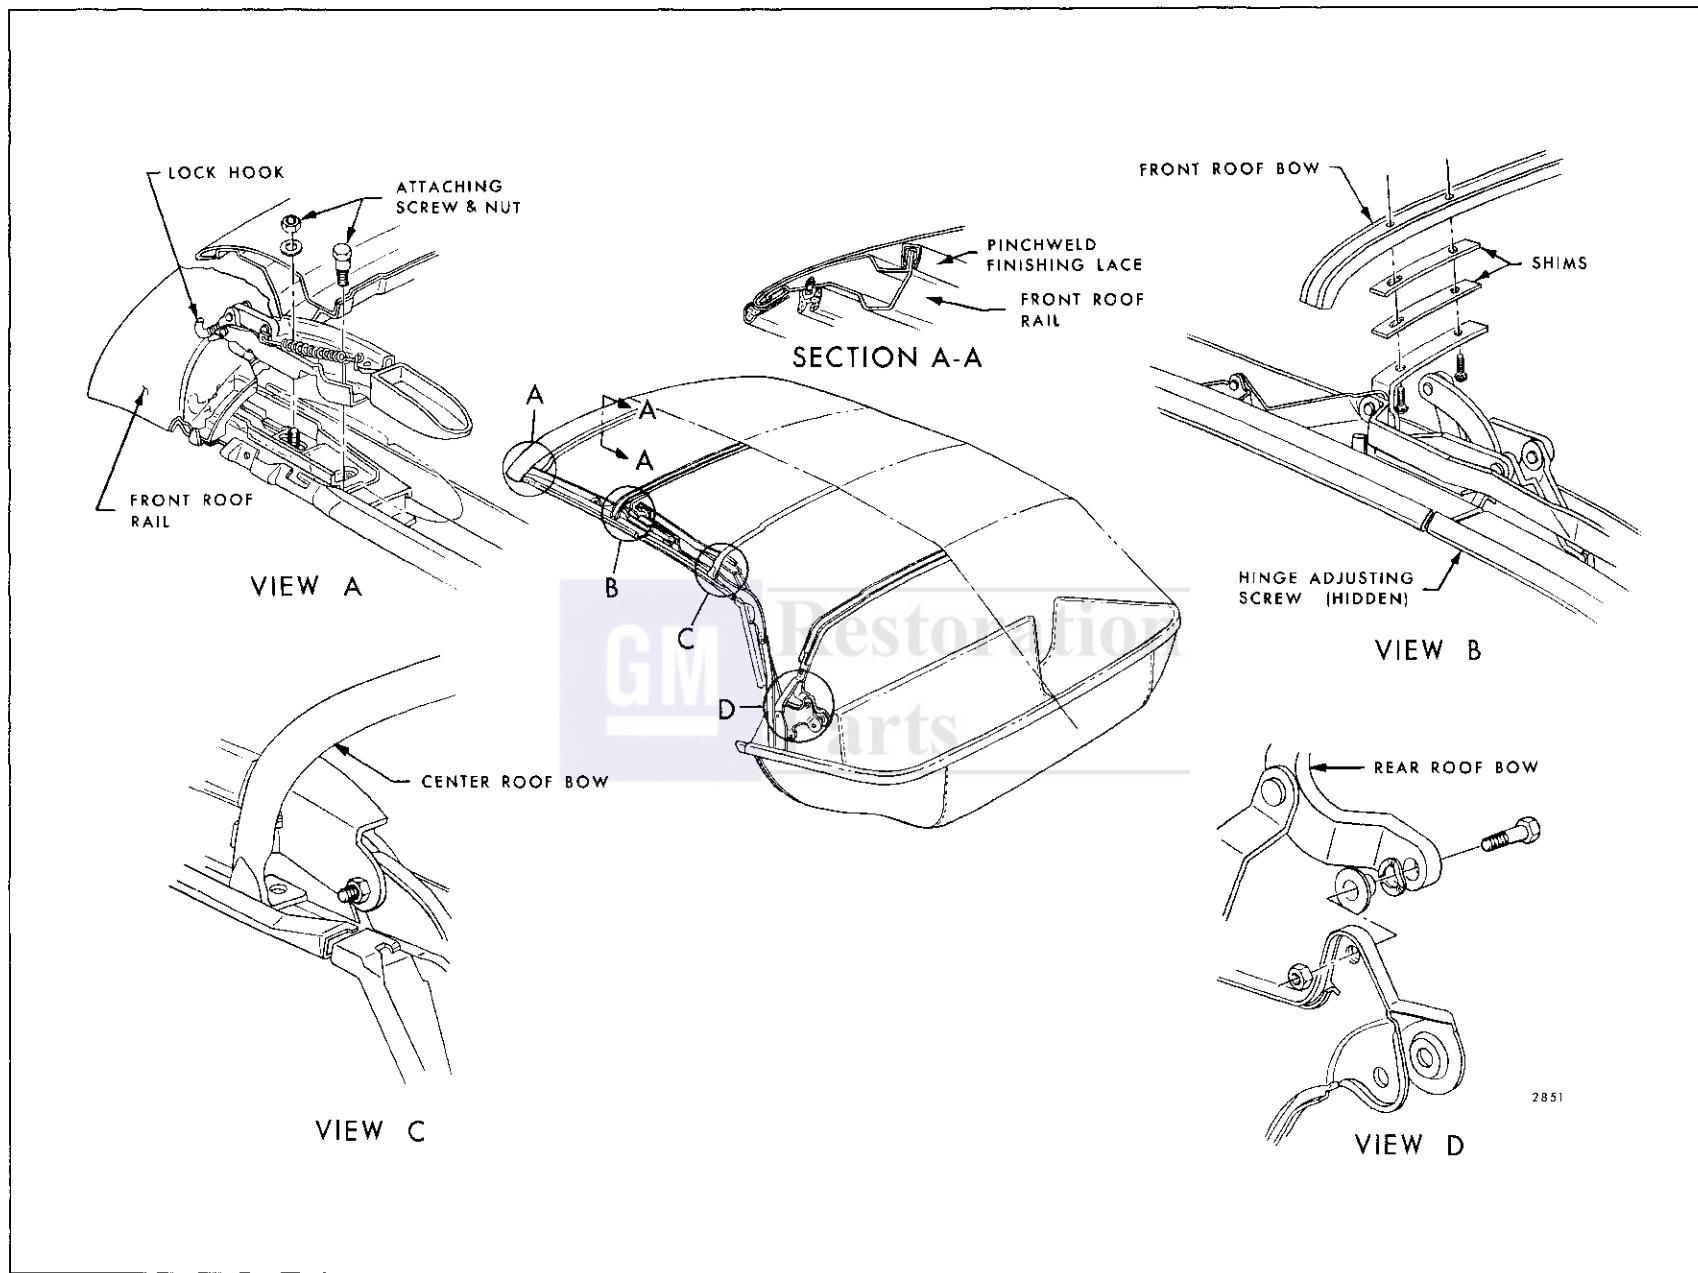

Fig. 13-76—“A” Body Folding Top Adjustments
2. Loosen lock assembly attaching screws on side roof front rail and adjust front roof rail fore or aft as required. Repeat on opposite side if necessary. (See View "A", Fig. 13-76.)
2. With top in a half-open position, remove lock attaching screws; then remove lock assembly from front roof rail. (See View "A", Fig. 13-76.)